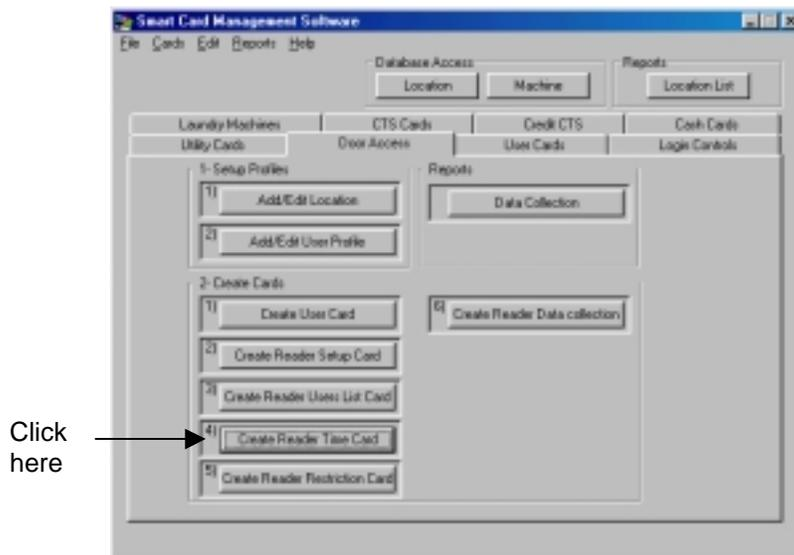

Figure 11.44 Creating a Time Card
1. Click the Create Reader Time Card button in the Door Access Manager (Figure 11.44).